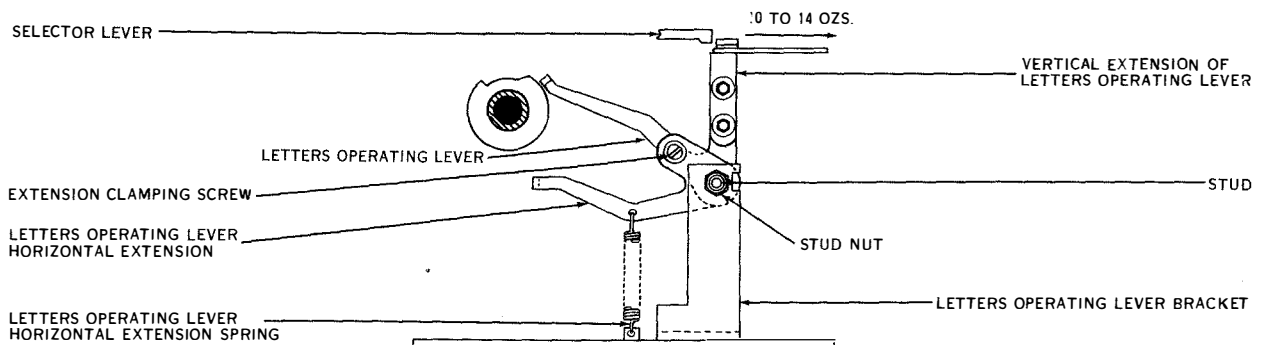

Figure 7-106. Letters Operating Lever Horizontal Extension Spring Tension
(a) Before making the following adjustments on numbering distributor-transmitters, move the letters operating lever to the front of the transmitter by means of its mounting stud and the slotted hole in the bracket (see figure 7-106). This prevents the vertical projection of the letters operating lever from interfering with the selector levers.
(45) **LETTERS OPERATING LEVER HORIZONTAL EXTENSION SPRING TENSION.** (See figure 7-106.)—When the letters operating lever is on the high side of its cam, a tension of 10 to 14 ounces should be required to start the lever moving. To check, hook a 32-ounce scale over the vertical extension of